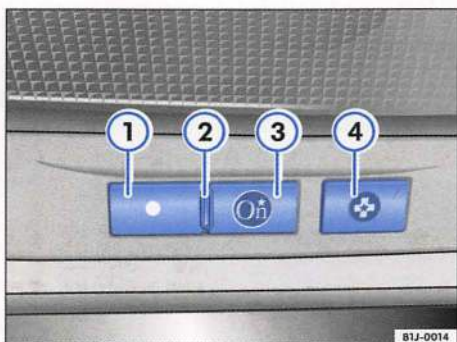

Fig. 8 OnStar: DOT button
- Press the DOT button ⇒ fig. 8 (1), OnStar response: <Ready>.
- Press the DOT button ⇒ page 11, fig. 8 ①, OnStar response: <Ready>.